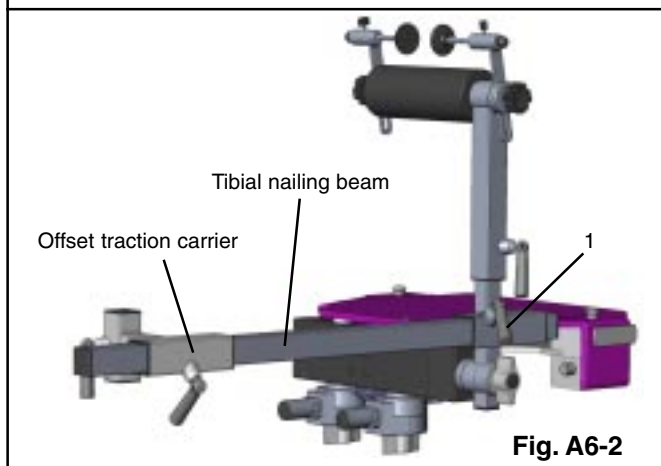

Fig. A6-2
Tibial nailing beam. Place into the tibial nailing upright beam as shown in Fig. A6-2. The clamp (1) may need to be slackened. Tighten clamp (1) after assembly.